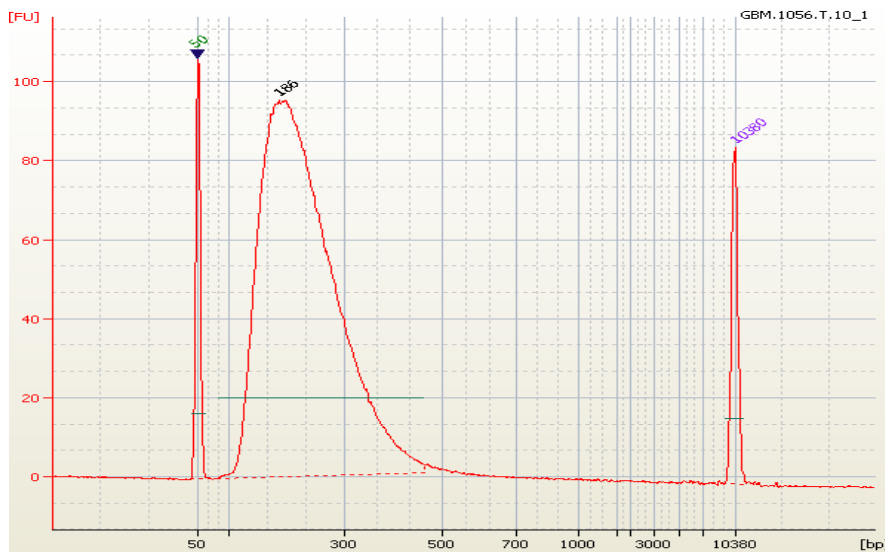

Fig. 4 Example Pre-capture LM-PCR DNA library on Agilent Bioanalyzer 2100 DNA 7500 Chip.
5. Quantitate the amplification products by NanoDrop and PicoGreen. Run an Agilent Bioanalyzer 2100 DNA Chip 7500 to check size distribution and assure the primers have been removed (See Fig. 4 for example).